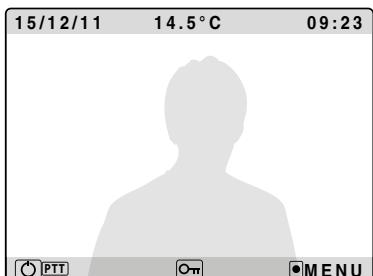

Fig. 1A
- To answer in hands free mode press the button **Fig.1A** (or pick up the handset on Art. KRV76);